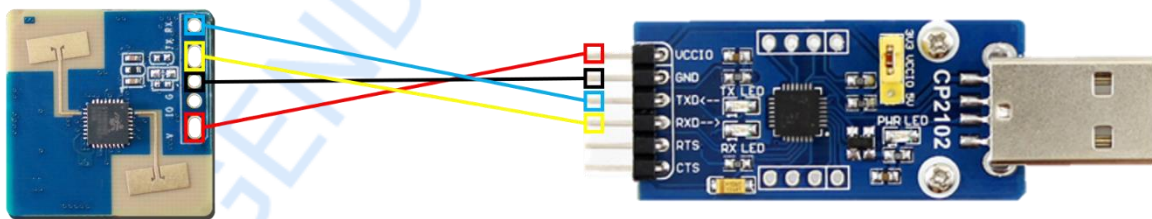
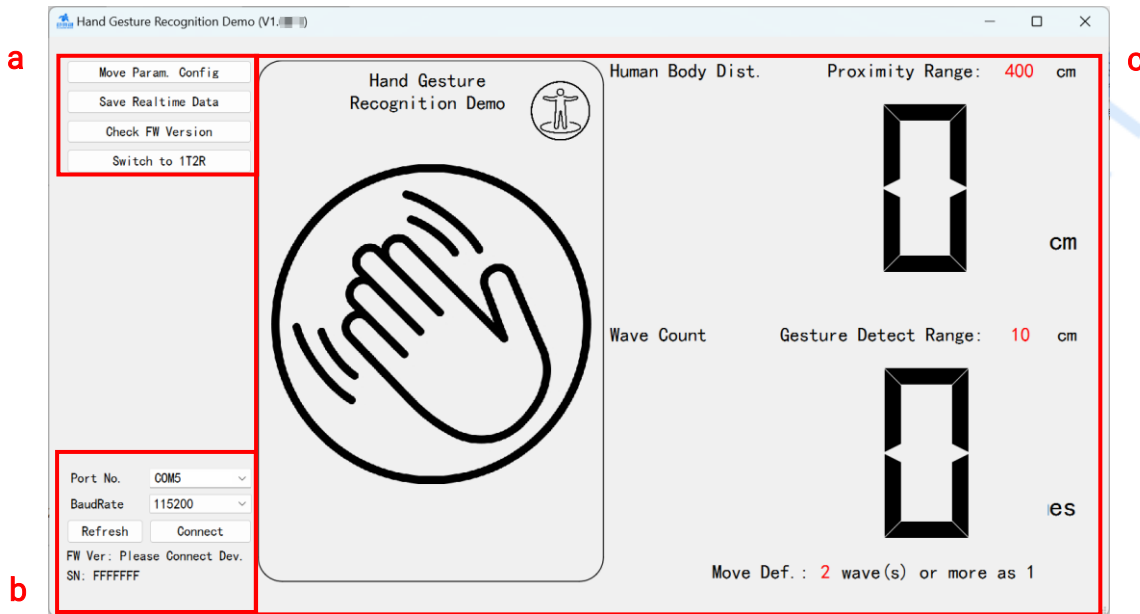

Figure 5-1 Connection of XenG101G and serial port tool
Figure 5-2 Demonstration tool of XenG101G
If using other serial tools, similarly ensure 3.3 V power supply. Refer to Figure 5-1 for the connection diagram.
After correctly connecting the cables as shown in Figure 5-1, double-click to open the "Hand Gesture Recognition Demo Tool". The interface appears as shown in Figure 5-2.
1. Click the "Save Realtime Data" button in the main interface's function area (Area-a in Figure 5-2)